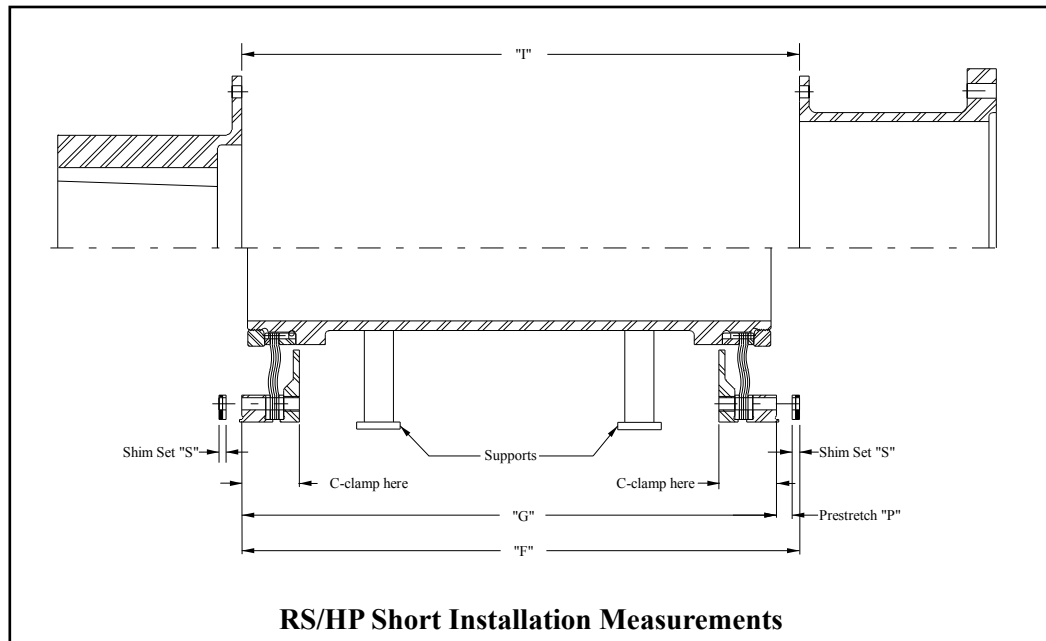

Figure 4-9
4.4.3.1 Measure and record , on the worksheet provided in Paragraph 4.4.5, the installation length “I” (distance between mounted flange faces) at four (4) places approximately 90° apart (see Figure 4-9).
4.4.3.2 Assemble the spacer rings, as shown on the Ameridrives Sales Drawing, onto both ends of the diaphragm pack sub-assembly taking care to re-align the matchmarks and end identification letters. Install a minimum of four (4) bolts approximately 90° apart through each spacer ring and tighten the bolts evenly in a criss-cross pattern to seat the pilots. On some size couplings the grip length of the bolts is too long to allow seating of the pilots in this manner. When this condition exists, a spacer plate, washers, shorter bolts, or C-clamps (not supplied) may be required to seat the pilots. Support as shown in Figure 4-9).
4.4.3.3 Measure and record, on the worksheet in Paragraph 4.4.5, the coupling free length “G” (distance between spacer ring outer flange faces) at four (4) places approximately 90° apart. It is recommended that C-clamps be used to compress the diaphragm pack at the location the measurements are being taken (see Figure 4-9).